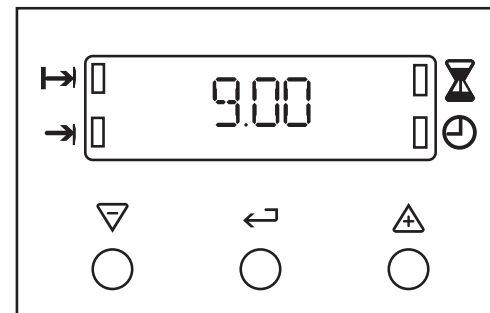

Fig.6.
- i) Ensure the electricity supply is switched ON and that the correct time of day is displayed, e.g. 9.a.m. as Fig. 6.